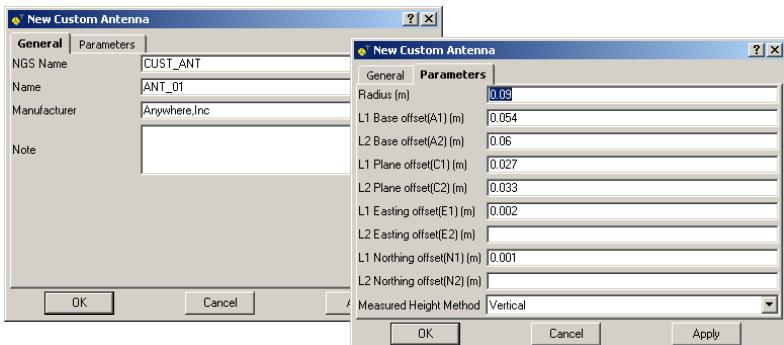

Figure 4-84. New Custom Antenna – General and Parameters Tabs
3. On the *General* tab, edit the NGS Name, Name, Manufacturer, and Note fields (Figure 4-84). Then click **Apply** to save the information.
4. Click the *Parameters* tab and enter the radius of antenna, offsets of the phase center from the antenna reference point (ARP) for L1 and L2 frequencies, and height measuring method for the antenna (Figure 4-84).